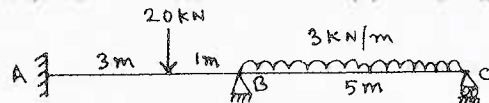

Fig.Q7
- 7 Analyze the continuous beam subjected to the loadings as shown in the Fig.Q7, using Claperons three moment theorem. Draw BMD. EI is constant throughout.